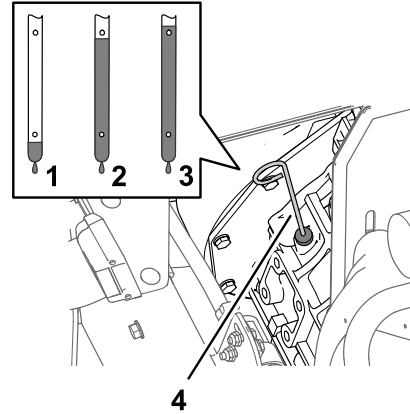

Figure 70
2. Remove the dipstick, located under the passenger seat, and wipe it with a clean rag (Figure 70).